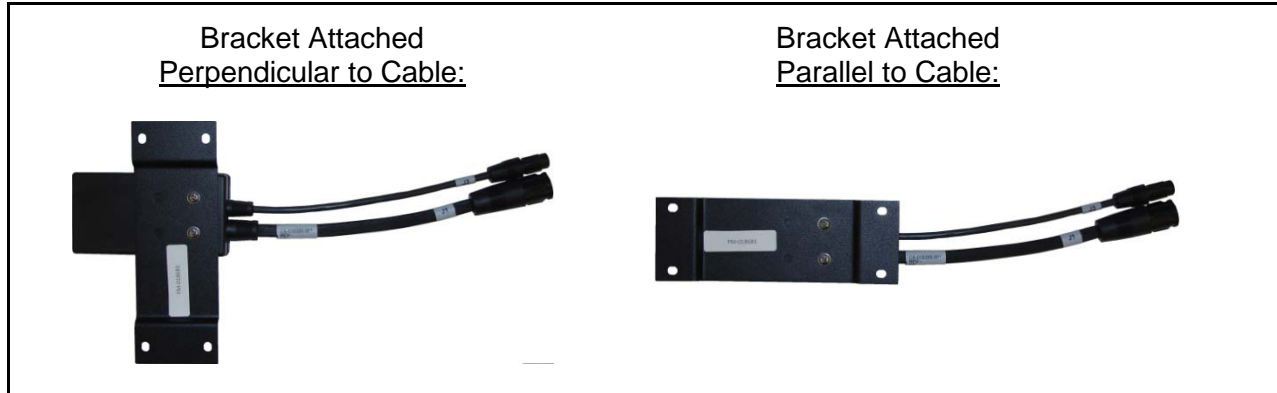

Figure 8-16: HHC-731 Interface Cable Mounting Bracket-to-Cable Positioning
1. Attach the bracket to the large end of the cable using the two #6-32 machine screws and flatwashers included in the bracket kit. As illustrated in Figure 8-16, the two can be attached either perpendicular or parallel to each other. The “wings” of the bracket should be positioned away from the cable. Only two of four center-most holes in the bracket are used.
2. Tighten the two (2) screws securely with a #1 Phillips screwdriver. Do not over-tighten.